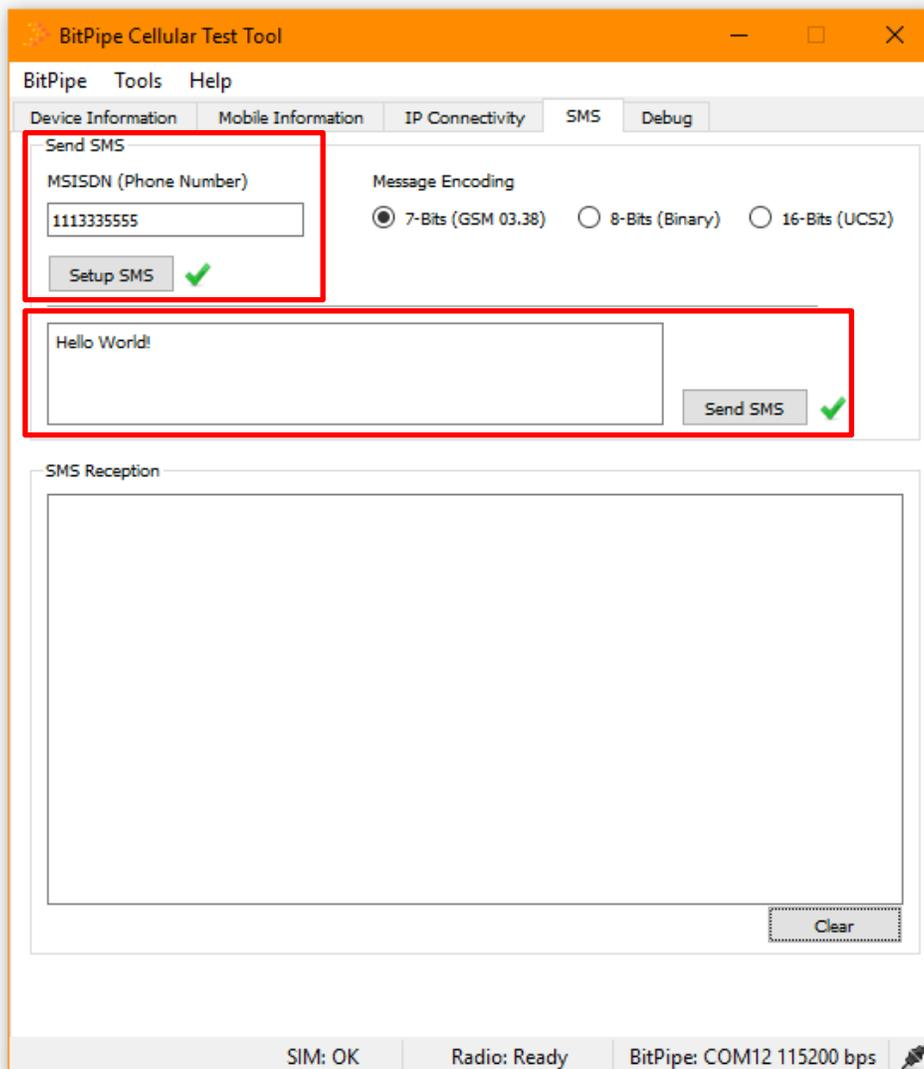

Figure 27 SMS Tab
- 1- Select the “SMS” tab (see Figure 27).